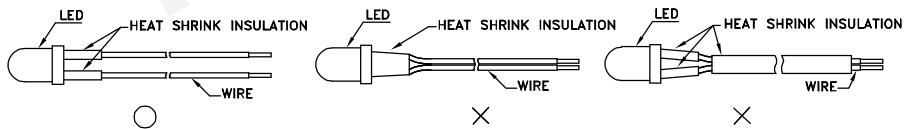

Fig. 2
- 3. When soldering wires to the LED, each wire joint should be separately insulated with heat-shrink tube to prevent short-circuit contact. Do not bundle both wires in one heat shrink tube to avoid pinching the LED leads. Pinching stress on the LED leads may damage the internal structures and cause failure. (Fig. 2)